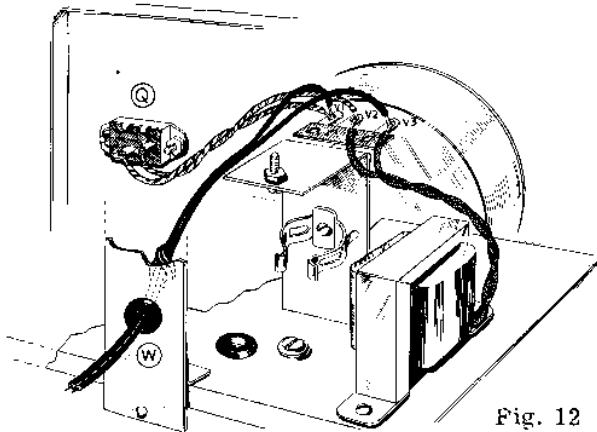

Fig. 12
- () The free end of the 2½" length of wire on L1 connects to G3 (S).
- () Connect a 47K resistor from L2 (S) to D2 (S).
- () The free end of the 2½" length of wire to L3 connects to G8 (S).
- () Connect one free lead of the 3½" twisted pair which is on pilot light M to G9 (S).
- () Connect the other free lead of the pilot light 3½" twisted pair to G4 (S).
- () Pass the free end of the 5" length of wire on P14 through grommet E and connect it to F3 (S).
- () Pass the free end of the 4½" length of wire on R18 through grommet E and connect it to solder lug C (S).
- () Study Figure 12 and connect one free lead of the 4" twisted pair which is on the OFF-ON switch (location Q) to V1 (NS).
- () Connect the other free lead of the OFF-ON switch 4" twisted pair to V2 (S).
- () The free end of the 2½" length of wire on P1 connects to K3 (S).
- () Run a short bare wire jumper from P3 (S) to J3 (S).
- () Run a wire from T1 (S) to the insert solder lug of black banana jack in location S (S).
- () Connect a 3.3 Megohm resistor from P10 (S) to G2 (S).
- * () The outside foil lead of the .01 MFD condenser connects to H5 (S) and its other lead goes to P8 (S).
- () Reversed Diodes; the outside foil lead of the .01 MFD condenser connects to (use spaghetti) H3 (S) and its other lead goes to P8 (S).
- () Note Figure 12 and pass a 3/8" rubber grommet through the hole in location W.
- () Split the line cord slightly and connect one lead to V1 (S).
- () Connect the line cord's other lead to V3 (S).